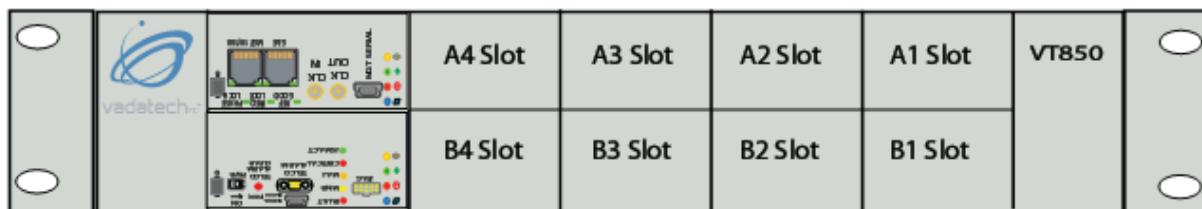

Figure 7: VT850/1 Front Side AMC Slot Layout.
The VT850 and VT851 carriers include a MicroTCA Carrier Hub (MCH), a MicroTCA Power Module (PM) and two MicroTCA Cooling Units (CUs). Two removable modules provide front-panel access to these components. The DA122 provides Ethernet and serial access to the MCH, and Telco Clock functionality. The DA123 provides LEDs and serial access for the PM, Telco Alarm functionality, and a JTAG Switch Module for the AMCs. The slot layout is shown in **Figure 7** and **Figure 8**.